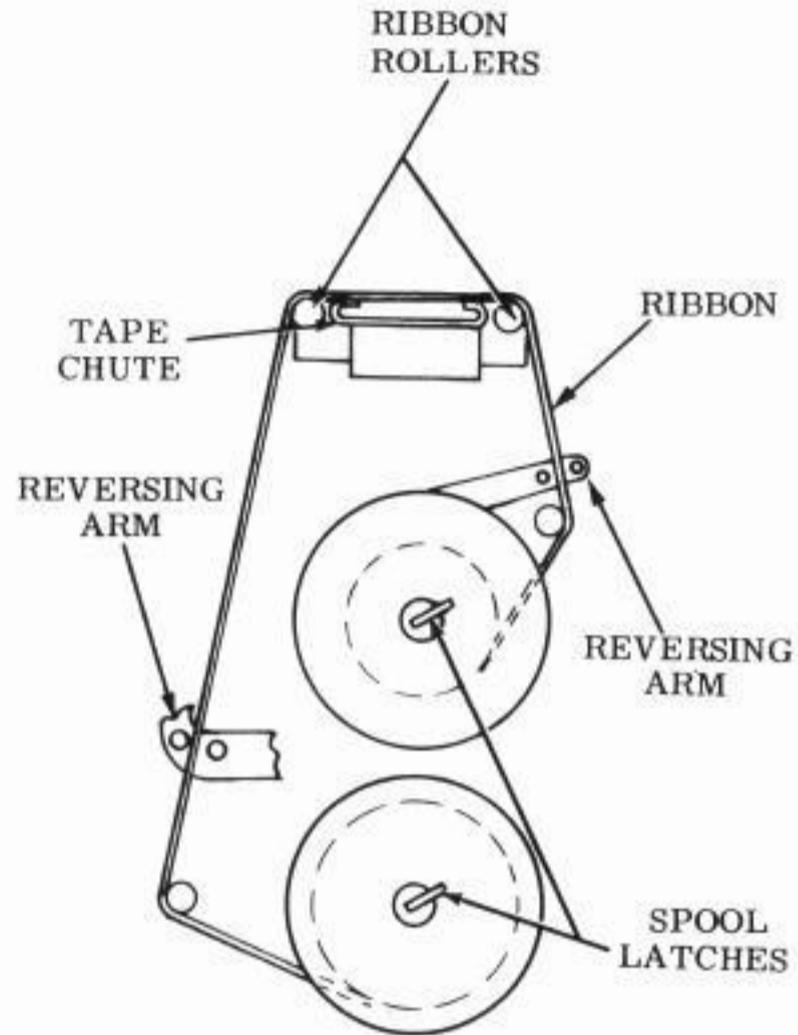

Figure 5 - Path of Ribbon
2.09 Install a ribbon on the tape printer as shown in Figure 5.